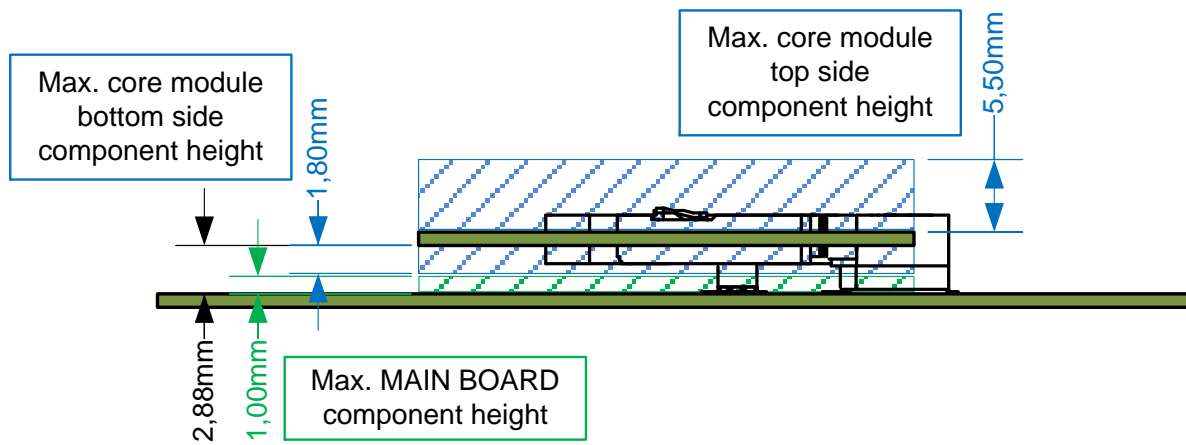

Figure 8: Maximum component heights
- Figure 8 shows an example with 5,2mm SODIMM-200 socket height.
- Figure 8 only fits with Solo or DualLite core module variant. For Dual and Quad please have a look at the cooling concept.
- Figure 8 doesn't consider DHCOM-X (Molex High Speed Connector) socket.